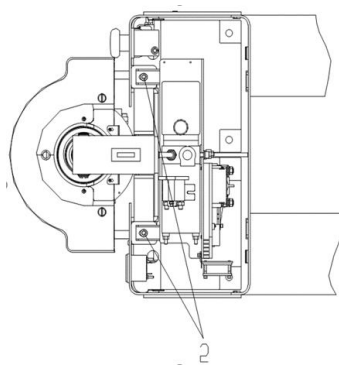

Fig.8
- (Fig 8) Loose screw5, ensure that the battery is compressed by the integration seat;